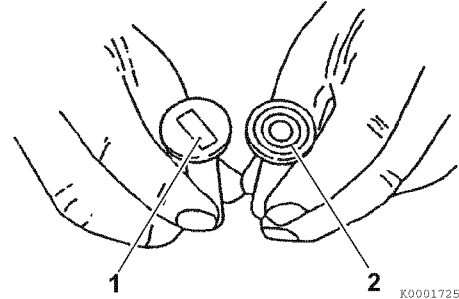

Figure 6-71
1. Inspect the tappet contact surfaces for abnormal wear (1, **Figure 6-71**). Normal wear will be even as shown in (2, **Figure 6-71**). Slight surface defects can be corrected using an oilstone.